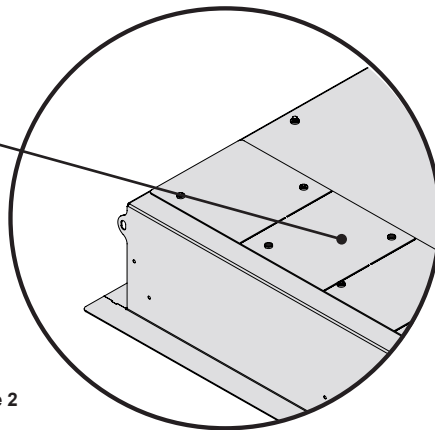

Figure 2
- 2) Remove the knockout covers from the top of the GB-AVSTOR3 (Figure 2).